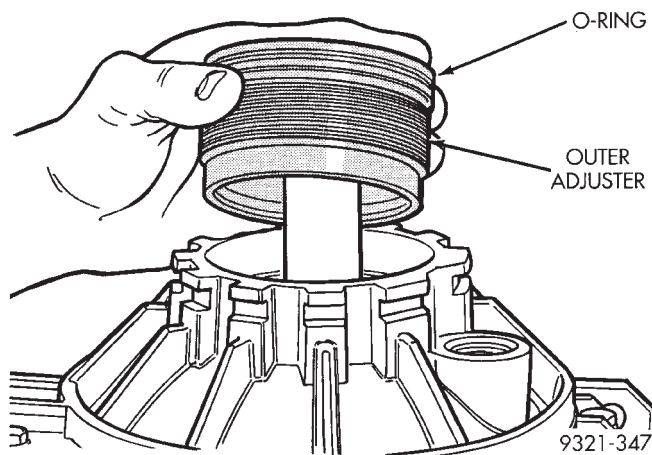

Fig. 340 Outer Adjuster Installation
(55) Install outer adjuster with new O-ring (Fig. 340). Torque the outer adjuster (special tool 6503) to the torque reading recorded in Step 31. Then seat bearings by turning differential three or four revolutions in both directions. Tighten adjuster a second time to same torque recorded in Step 31. Again reseal bearings. Repeat this sequence until correct adjuster torque is maintained.